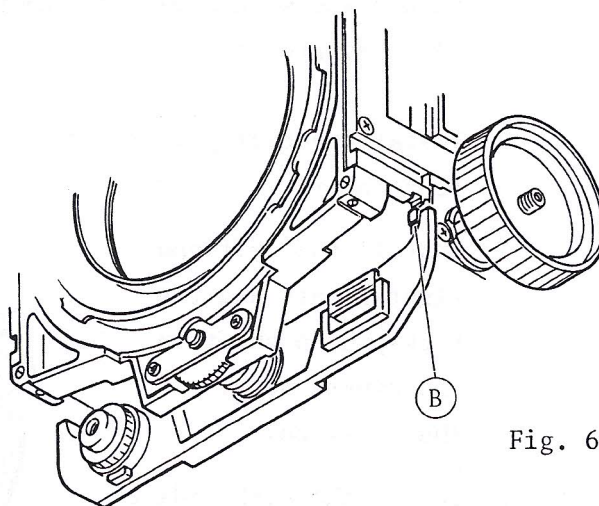

Fig. 69
a. Align the first tooth of either rack plate with the protrusion (B) of die-casting by rotating the focusing knob. (Fig. 69) The other side rack plate must be in the same level.